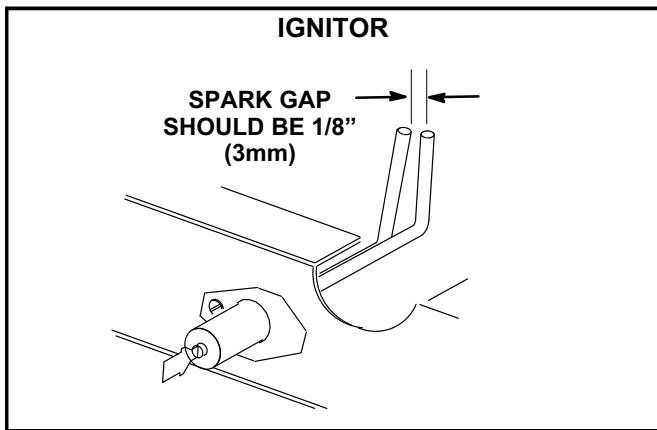

FIGURE 30
- 5- Locate the ignitor under the right burner. Check ignitor spark gap with appropriately sized twist drills or feeler gauges. See figure 30.